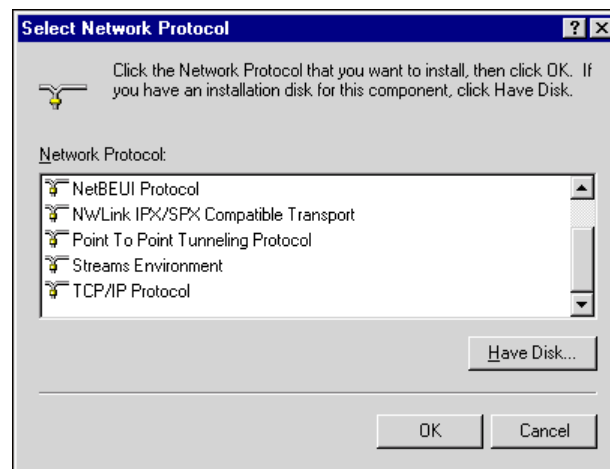

Figure A-2: Select Network Protocol dialog
- 6 If TCP/IP is not on the list of installed protocols, click **Add** to open the Select Network Protocol dialog (Figure A-2).